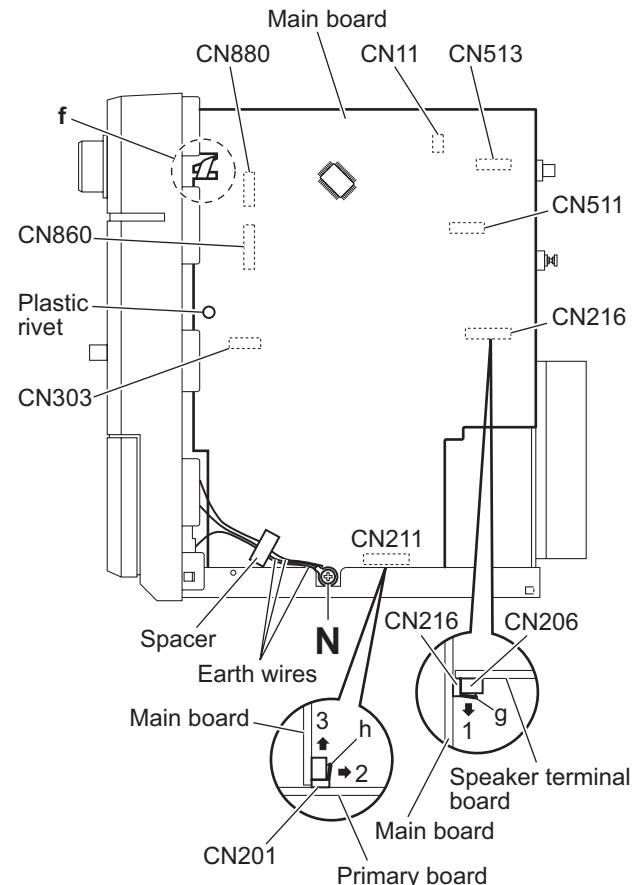

Fig.14
(See Figs.14 and 15)
- (1) From the right side of the main body, remove the screw **N** attaching the earth wires on the reverse side of the main board. (See Fig.14.)
After attaching the earth wires, fix them with a spacer as before. (See Fig.14.)
- (2) Remove the plastic rivet attaching the main board. (See Fig.14.)
- (3) From the inside of the main body, disconnect the card wires from the connectors (CN11, CN303, CN511, CN513, CN860, CN880) on the forward side of the main board. (See Figs.14 and 15.)
When reassembly, pass the card wire through the section **f** of the main board before connecting the card wire to the connector CN11. (See Fig.14.)
- (6) Release the lock **g** of the connector CN216 on the main board in the direction of the arrow 1 and disconnect the main board from the connector CN216 on the speaker terminal board toward this side. (See Fig.14.)
When releasing the lock **g**, take care not to break it. (See Fig.14.)
- (7) Release the lock **h** of the connector CN201 on the primary board in the direction of the arrow 2 and disconnect the connector CN211 on main board from the connector CN201 in the direction of the arrow 3. (See Fig.14.)
When releasing the lock **h**, take care not to break it. (See Fig.14.)